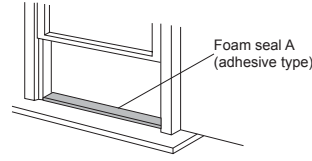

Fig. 10
1. Cut the foam seal(adhesive type) to the proper length and attach it to the window stool. Fig.10